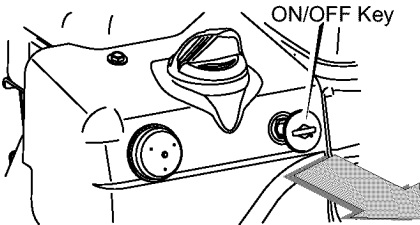

Figure 19
2. Pull out and remove the ON/OFF key (see Figure 19). Keep the ON/OFF key in a safe place. The engine will not start without the ON/OFF key.